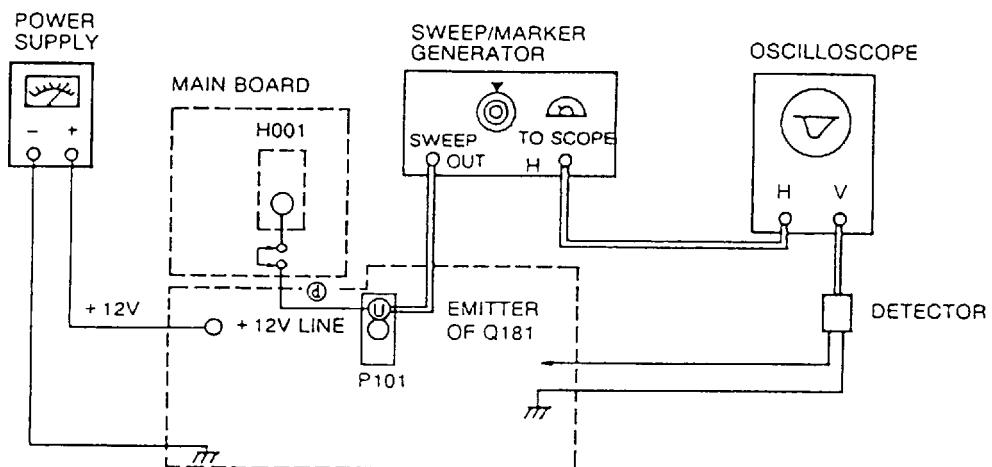

Figure 7. I-F TRAP Alignment
- GENERAL Refer to Figure 7 for the equipment connection.
SWEEP/MARKER GENERATOR Connect to the point ④ as shown in Figure 7 on the MAIN Board.